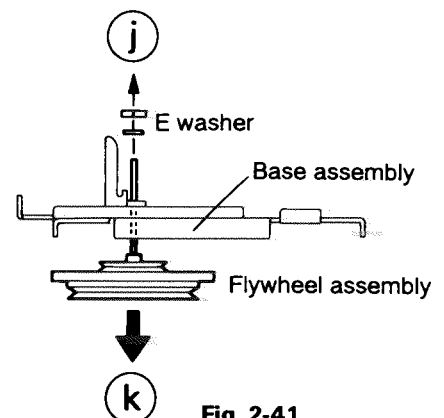

Fig. 2-41
■ Flywheel assembly (Fig. 2-41)
1. E. washer retaining the flywheel assembly in the direction of arrow ①.
2. Pull the flywheel assembly out of the back side of the cassette mechanism in the direction of the arrow ②.